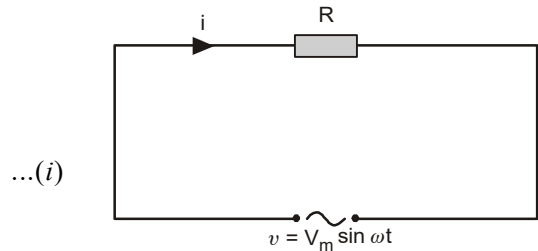

Fig.2.21: Circuit containing only resistance
2.19. A.C. CIRCUIT CONTAINING ONLY RESISTANCE (R)
The circuit containing a pure resistance (R) ohm is shown in fig.2.21.